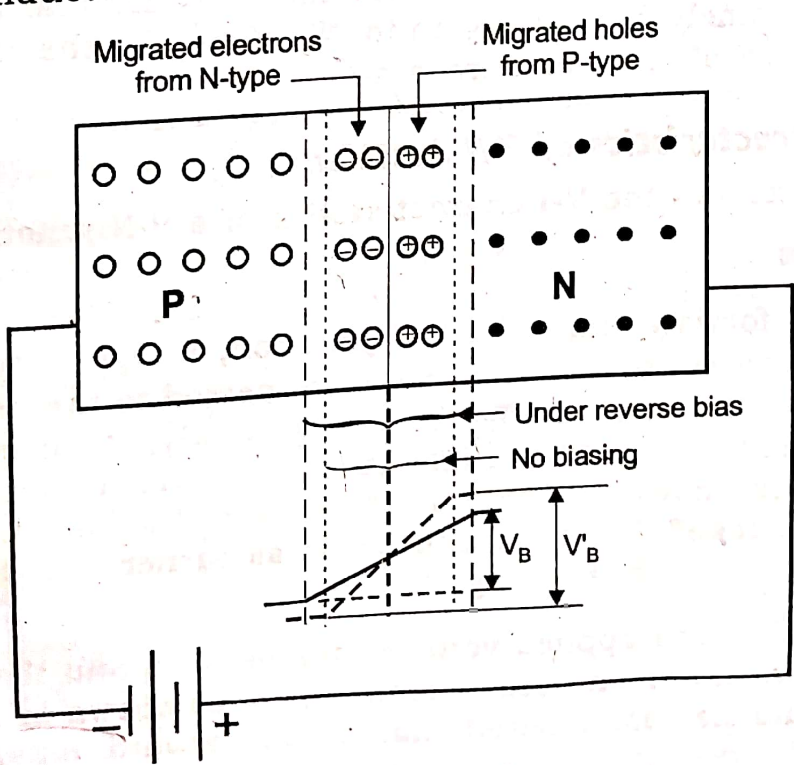

Figure 4.8 Reverse biased P-N junction
- When an external voltage is applied to P-N junction in such a way that it increases the potential barrier then it is called as "**reverse bias**". For reverse bias, the negative terminal is connected to P type semiconductor and positive terminal is connected to N type semiconductor as shown in figure 4.8.